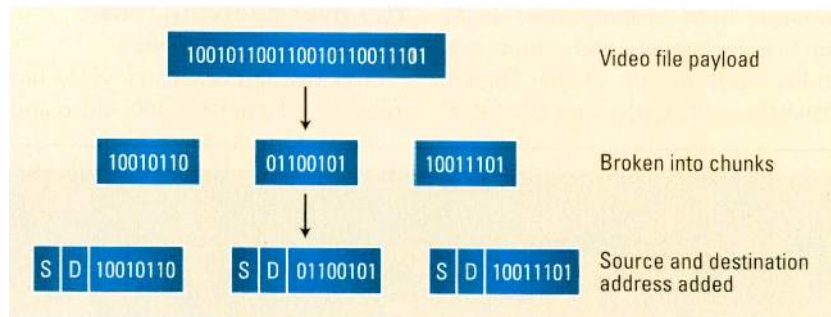

Figure 1. Packetized networks break the payload into chunks and add source and destination addresses in the packet headers.
- *Packets have a source address and a destination address.* Address information is contained in a header, which can be quickly read by anyone who needs to know where the packet came from or where it is going. Imagine that the tractor-trailer has two large, easily-read labels on the cab, which say where it started from and where it is headed. (See Figure 1.)